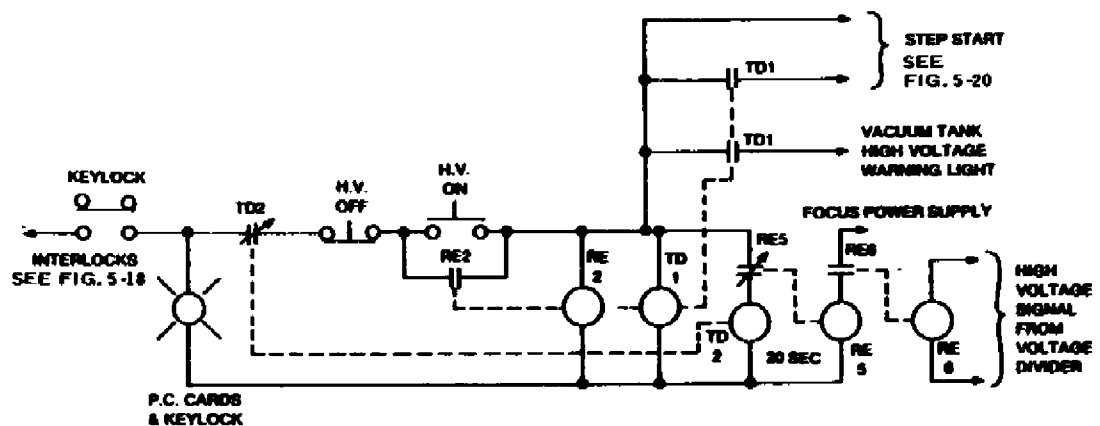

Figure 5-19. CV-8 A and B high voltage control
5.6.1 High Voltage Control (Figure 5-19)